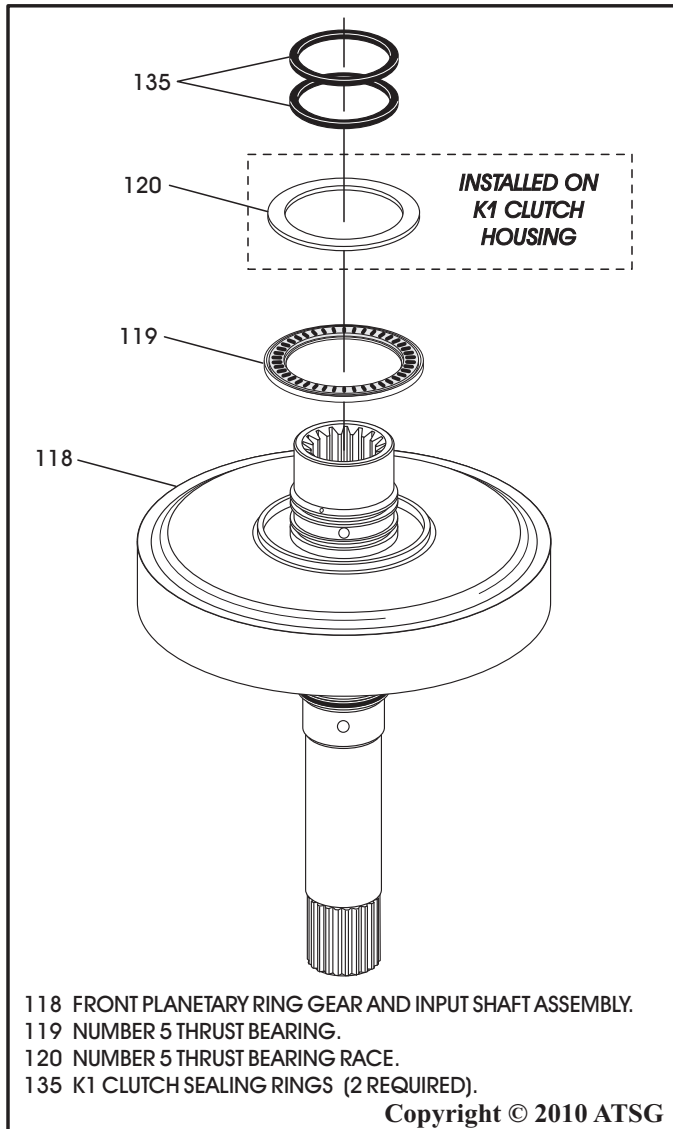

Figure 139
4. Install the number 5 thrust bearing onto back side of input shaft and front planet ring gear, as shown in Figure 139, with needles facing up and retain with Trans-Jel®.
5. Install two new sealing rings into the grooves of input shaft, as shown in Figure 139.